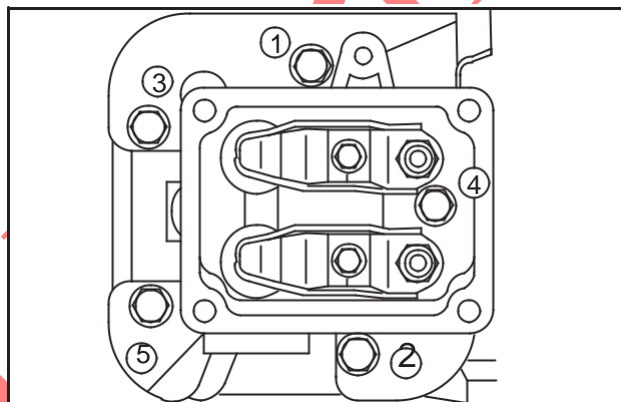

Fig. 23 – Install Cylinder Head Assembly
2. Install cylinder head assembly, Fig. 23.